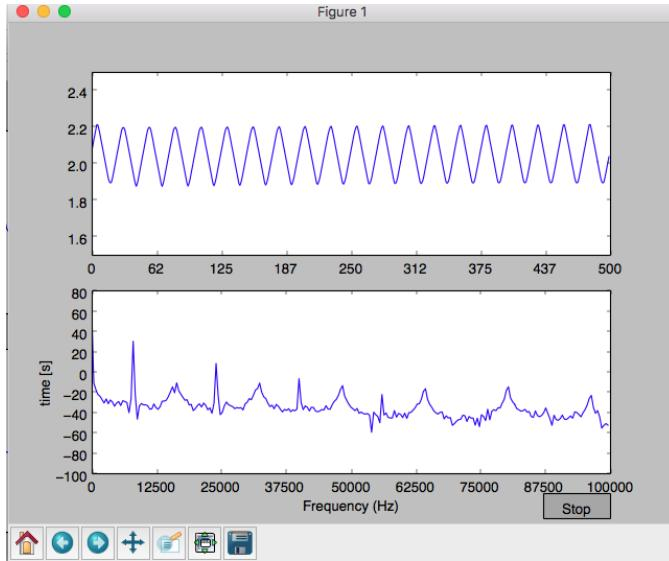

Figure 18: Screen capture of the real-time signal capture program.
- (a) If you are using the lab computer, you can run the program from the Spyder IDE that comes with the Anaconda Python distribution. If you do so, make sure that you run the program under the Python console rather than the IPython console. You could also run the program from the command line by “python realtime_ad_analysis.py”. You should expect to see a new window popping up that displays the sampled input signal and its frequency spectrum in real time (Fig. 18).